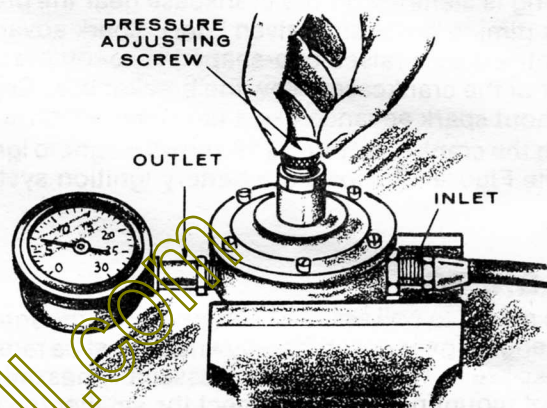

FIGURE 15. VAPORIZER ADJUSTMENT
1. Place the vaporizer in a vise or other suitable clamp. Attach an air hose from an air supply of approximately 75 psi to the inlet, (Figure 15).